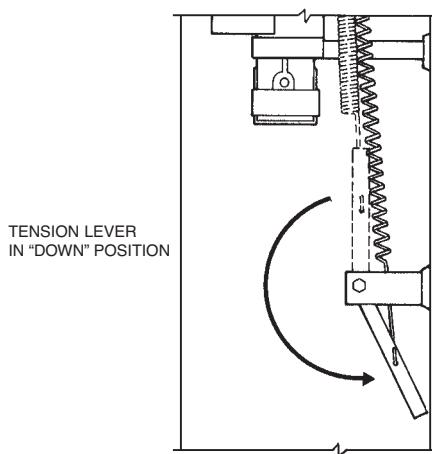

FIGURE 17
- 25. Lower tension lever to "DOWN" position. See Figure 17.